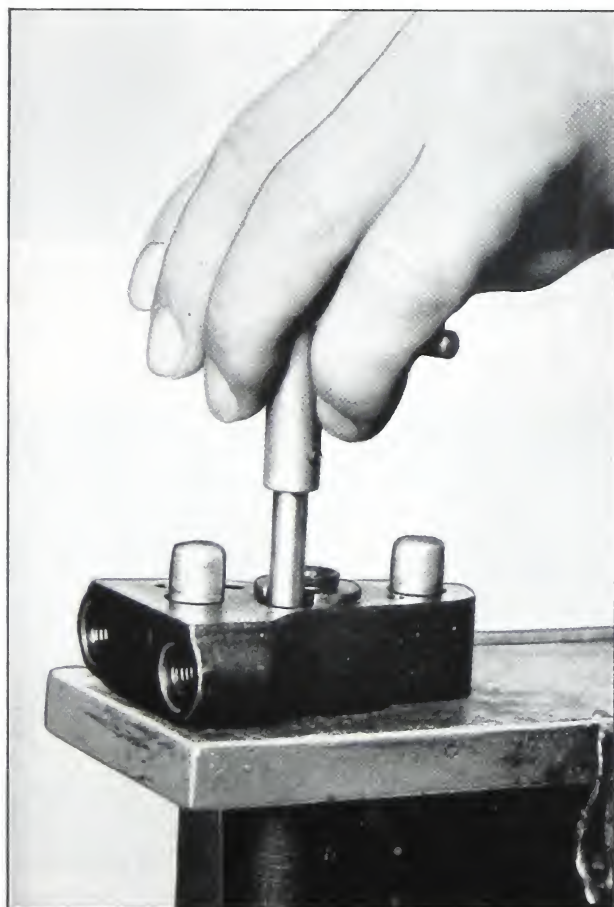

Fig. 6-21. Refacing valve and gasket seats
3. ST-147 is a seating cutter to reface check valve seat and gasket seat in the injector body. These two cutters should never be used except when valve seat has been damaged. If used, they should be adjusted exactly $2\frac{7}{8}$ " apart to maintain proper check valve travel after assembly. See Fig. 6-21.